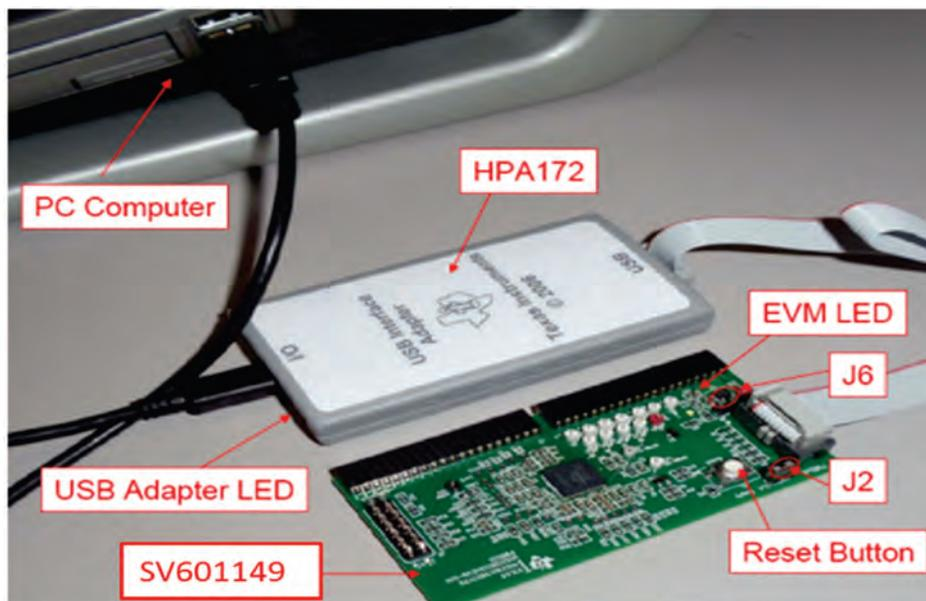

Figure 5. UCD3138ACCEVM149 Test Connections
Shown in Figure 5 is the connection between UCD3138ACCEVM149 and the PC computer through USB-to-GPIO Interface Adapter.
Set up the EVM connection based on Figure 5.
1. Set up the EVM connection based on Figure 5. The LED of USB adapter is light on.